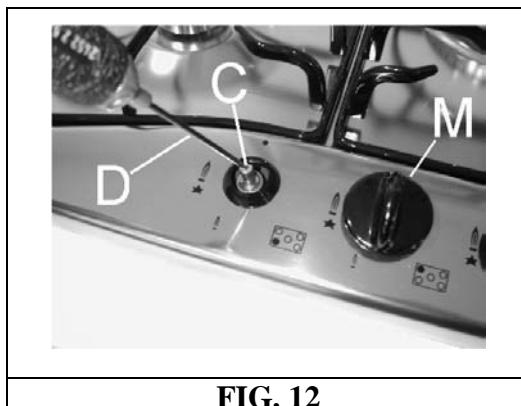

FIG. 12
- Remove knob “M” (fig. 12) of the tap, which is simply pressed on to its rod.
- Insert a small screwdriver “D” into hole “C” (fig. 12) and turn the throttle screw to the right or left until the burner flame has been adequately regulated to the “Reduced rate” position.